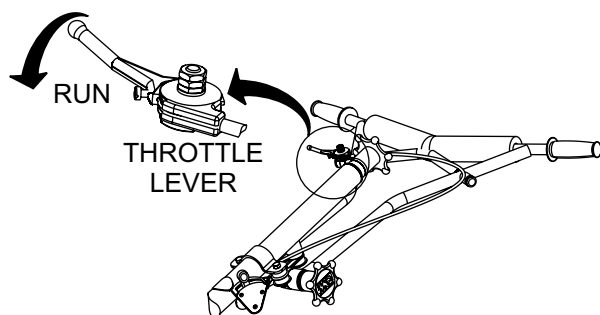

Figure 28. Throttle Lever (Run)
1. To begin troweling, push the throttle lever (Figure 28) forward to the "RUN" position.